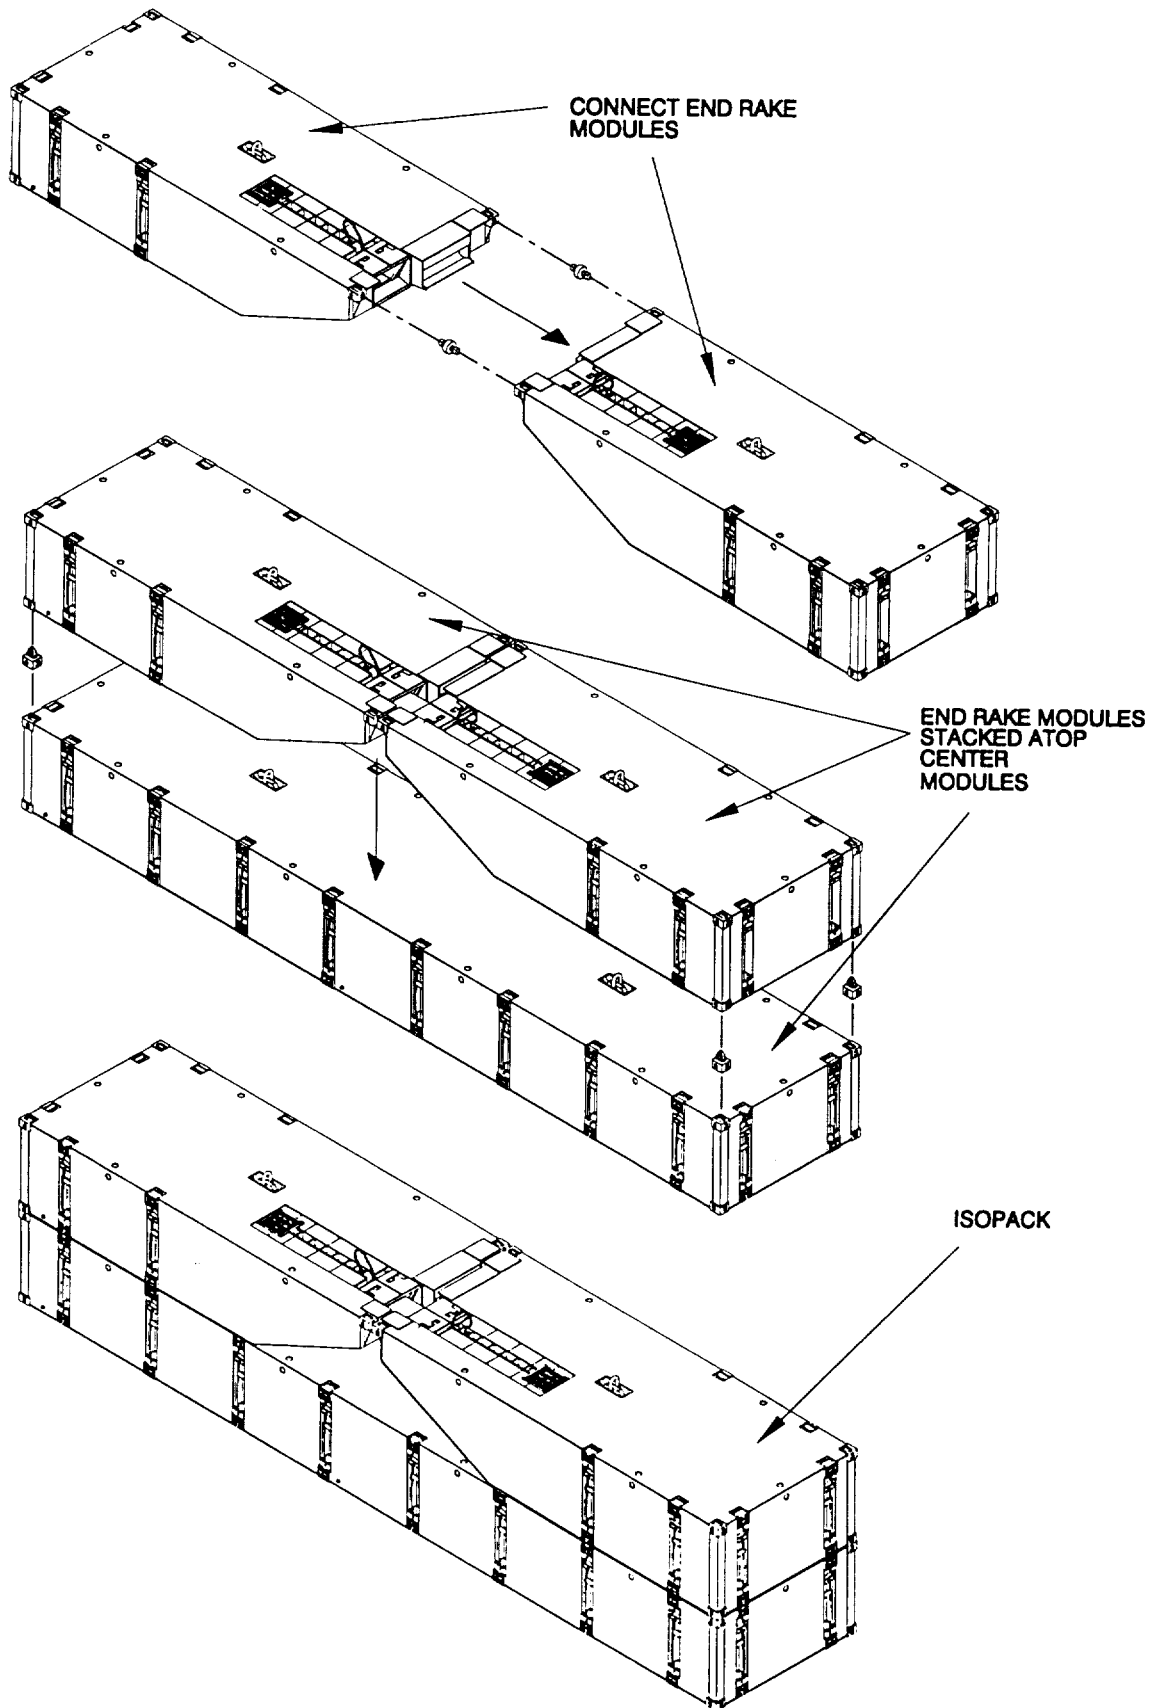

Figure 2-25. Disassembling an MCF ISOPAK.
**2-6.3 Disassembling an ISOPAK.** To disassemble an ISOPAK (Figure 2-25), perform the following steps.